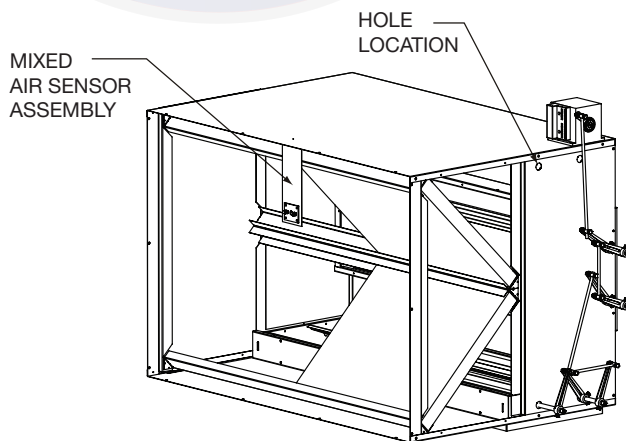

Fig. 39 — Mixed Air Sensor Installation
2. Place mixed air sensor assembly in airstream as shown in Fig. 39.
4. Drill or knockout $\frac{1}{2}$ in. hole into top of mixing box close to actuator as shown in Fig. 39.